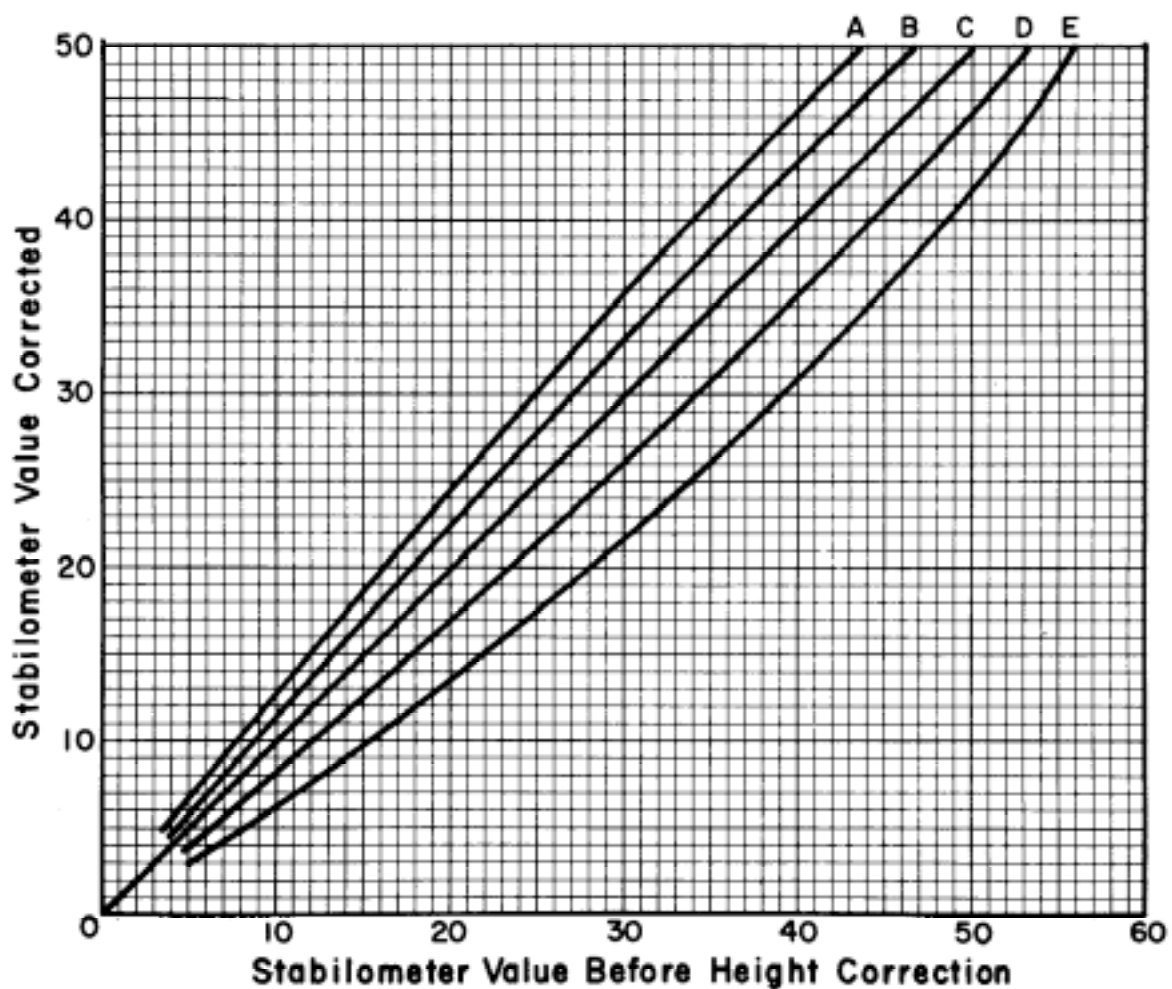

FIGURE 3
1. Every effort should be made to fabricate test specimens having an overall height between 61.0 and 66.0 mm; however, if for some reason this is not possible, the Stabilometer value should be corrected as indicated on the attached chart, Figure 3.